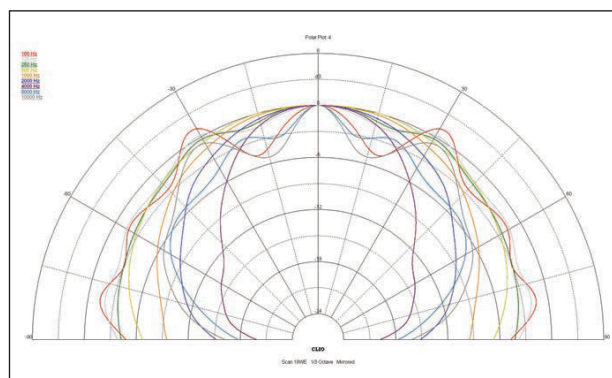

Figure 25: Scan-Speak Ellipticor 18WE/4542T00  $180^\circ$  horizontal plane CLIO polar plot (in  $10^\circ$  increments)
**Figure 23** shows the on- and off-axis frequency response at 0°, 15°, 30°, and 45°. The -3 dB frequency at 30° off-axis relative to the on-axis SPL is about 2 kHz, suggesting a crossover between 1.8 to 2.5 kHz should be appropriate. **Figure 24** shows the normalized version of Figure 23, with the CLIO polar plot (done in 10° increments) displayed in **Figure 25**.